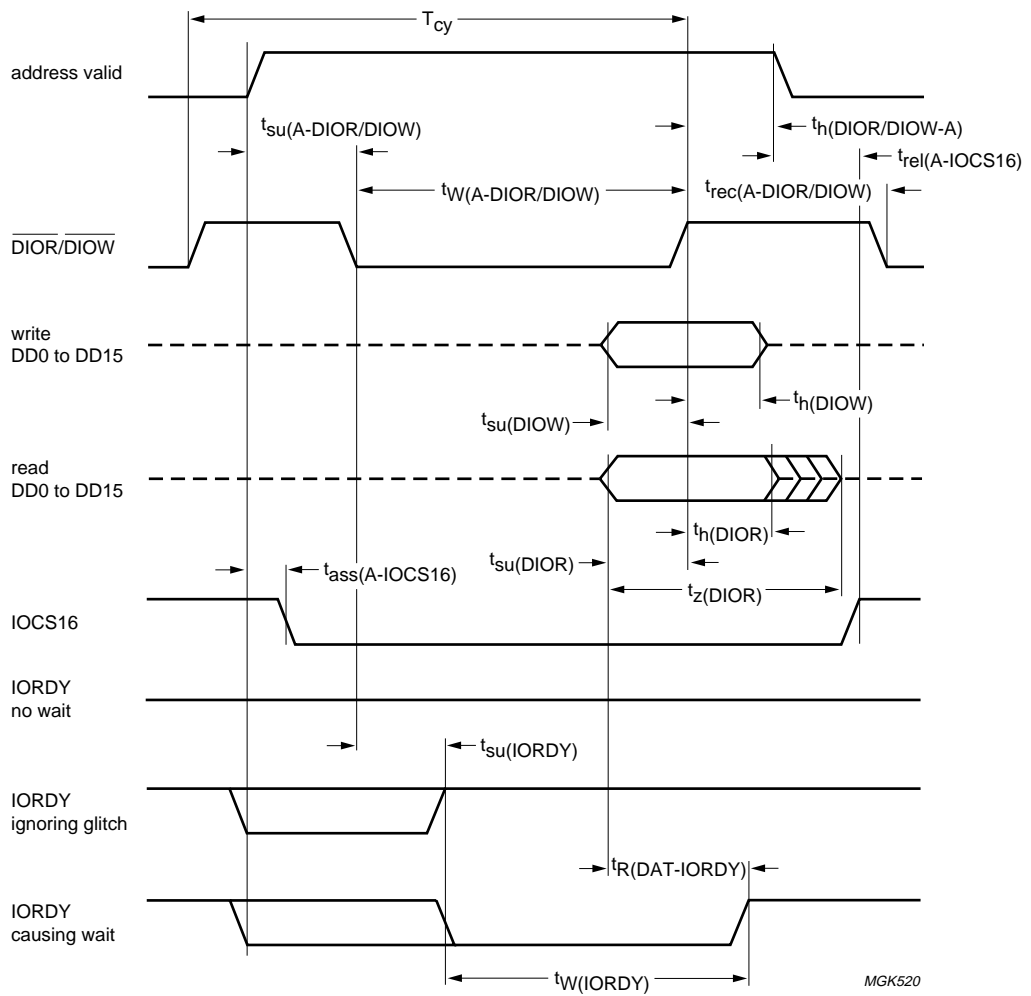

Fig.15 ATA bus timing diagram.
**Table 106** Timing of PIO data transfer to and from device; see Fig.15